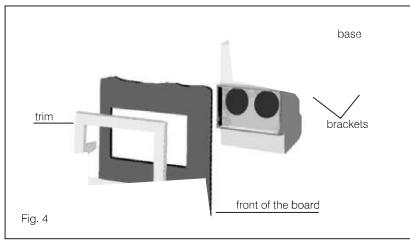

Fig. 4
**panel mount with Kit (to be ordered) (fig 4):**